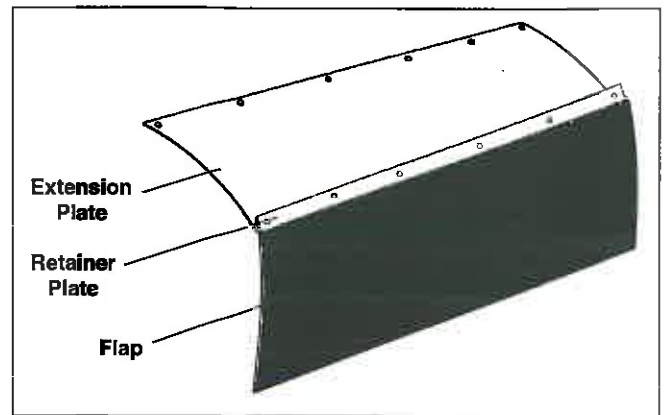

figure 58
3. Place the rubber flap and then the retainer plate on the bottom edge of the extension plate (figure 58). Insert 3/8 x 1 in. carriage bolts into all holes except the last on each end. Secure with lock washers and nuts.